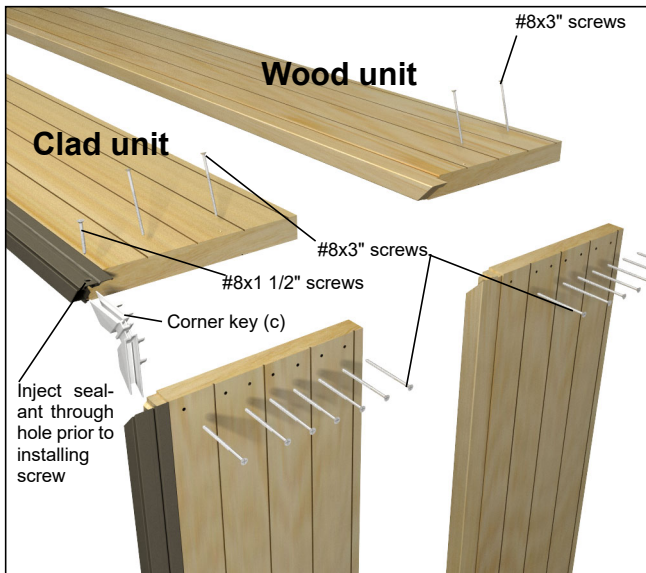

Figure 17
2. Run a 3/16" (5) bead of sealant on all wood joints prior to assembly. Assemble the corner and fasten with the supplied screws through all of the pre-drilled holes. See figure 17 for clad and wood.
3. On clad units, before installing the screw into the clad corner joint, inject sealant into the screw hole until you can see squeeze out. See figure 17.